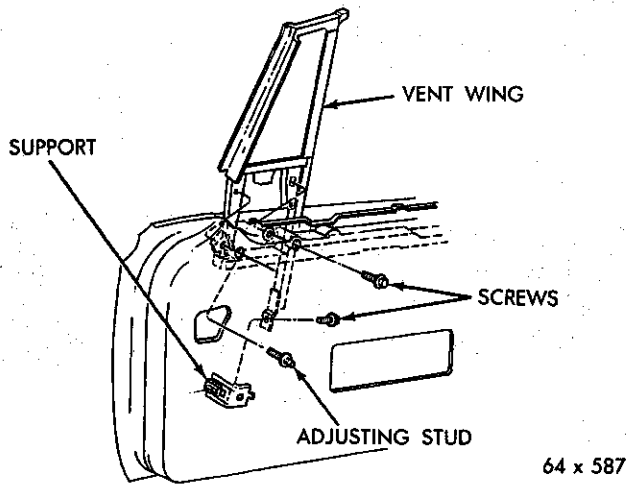

Fig. 12—Vent Wing Assembly (Imperial)
14. VENT WING FRAME AND DOOR GLASS ADJUSTMENT (Imperial Models) (Figs. 12 and 13)
- (2) Remove the inside upholstery trim panel and weather shield.
- (3) Close the door and observe the direction the vent frame must be moved to align the frame with the "A" post and also make a good weather seal at the roof rail weather seal.
- (4) Loosen the forward attaching screws and the division bar adjusting stud locking nut and washer (Fig. 12).
- (5) Run the door glass to the down position and move the vent wing fore or aft position to make the correct alignment with the "A" post.
- (6) Holding the vent frame in position, tighten the two forward adjusting screws to 40 inch pounds torque.
- (7) To move the top of the vent frame inboard, turn the division bar lower adjusting stud counter-clockwise. To move the top of the vent frame outboard turn the adjusting stud clockwise.
- (8) With the vent frame in position at the "A" post and making a good weather seal at the roof rail tighten the division bar adjusting stud lock nut and washer 30 to 50 inch pounds torque and retighten the two forward attaching screws 80 to 120 inch pounds torque.
- (9) Run the door glass to the up position and test for ease of operation.
- (10) Turn the upper rear roller track sleeve nut until the rear of the glass touches lightly on the cat whiskers at the belt line of the door outside panel.
- (11) Run the window, with the door closed, seating the glass fully against the roof rail weatherstrip and with the top of the glass flush with the top of the vent wing.
- (12) Adjust the lower frame parallel to the belt line of the door outside panel.
- (13) Tighten the pivot bracket screws securely.
- (14) Adjust the up stops down against window lower frame.